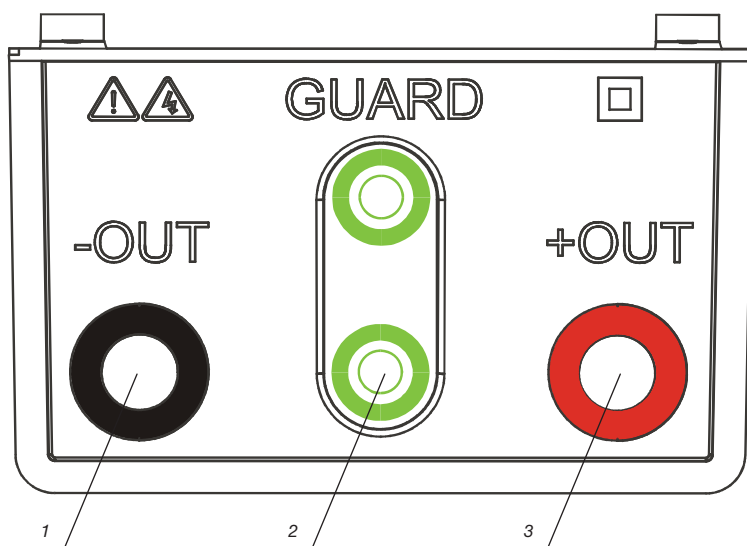

Fig. 3 Test Leads Connector Diagram
- Four banana safety sockets for test leads (Fig. 3).